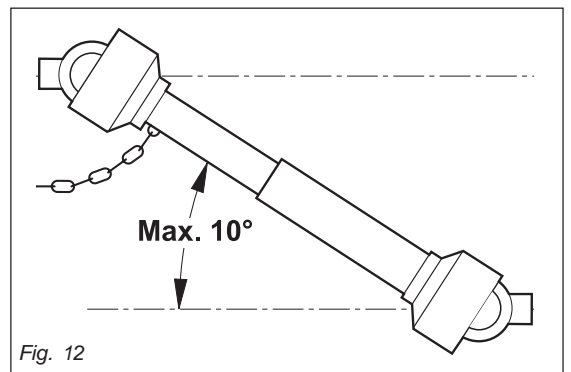

Fig. 12
- Always disconnect the PTO when the cardan shaft is at too wide an angle (never more than  $10^\circ$ , Fig. 12) and when it is not being used.